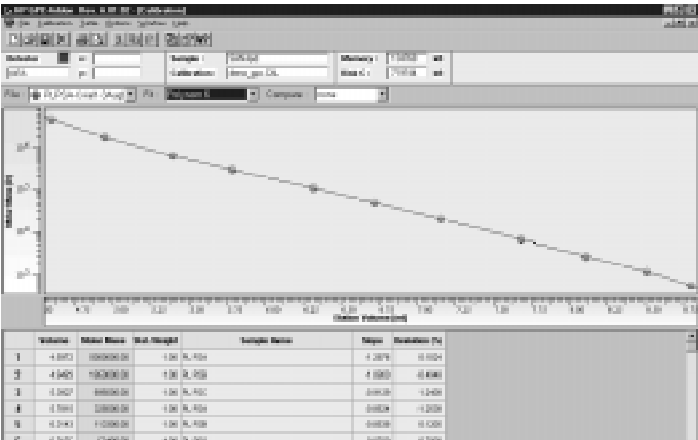

Figure 6:
- Figure 6 shows a typical calibration curve with a 3rd order polynomial fit.